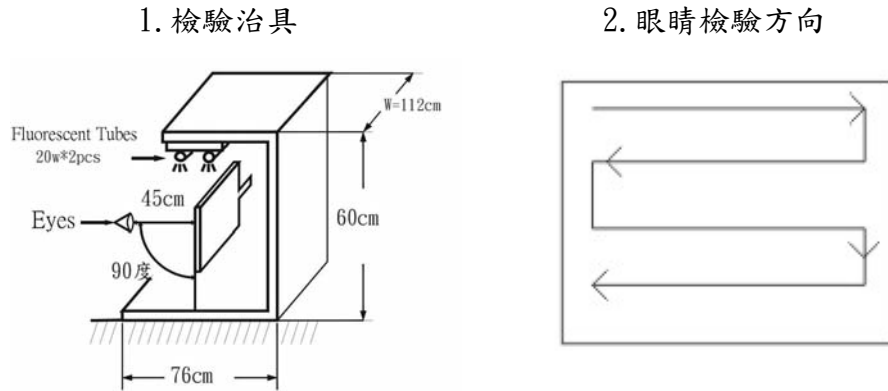

Figure 11-1
(1) The inspection was performed with two 20W(1800±500 LUX) fluorescent lamp lighting from back or side. The panel was placed 45cm away from eyes. (Figure 11-1).
[(1) 檢測始用之燈光為二盞 20W(1800±500 LUX)白熾燈光，並於面板後側或上側照射，檢測時須放置在離眼睛 45cm 處(Figure11-1)]